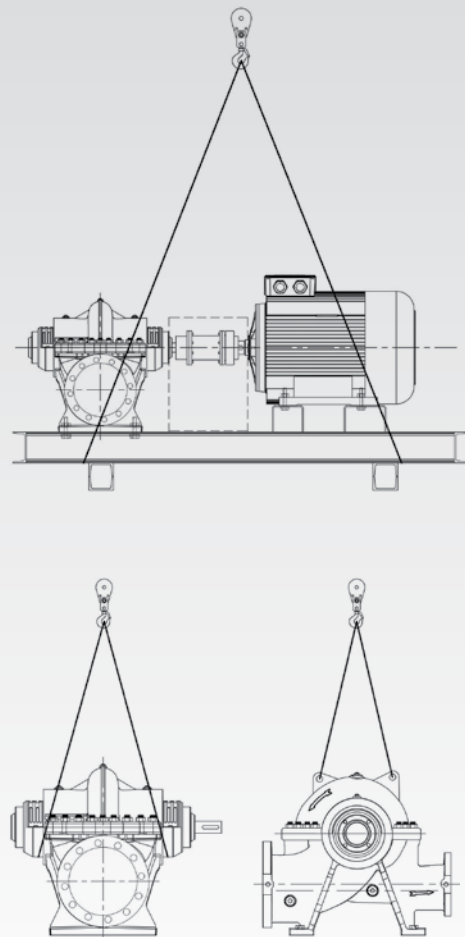

Figure 1
The pump or pump unit can be transported only horizontally. Make sure that the pump or pump unit is securely fastened during transportation and cannot roll or fall over. Fig. 1
- Pump unit must always be fixed and transported as shown in Figure 1 page 6 and the pump.